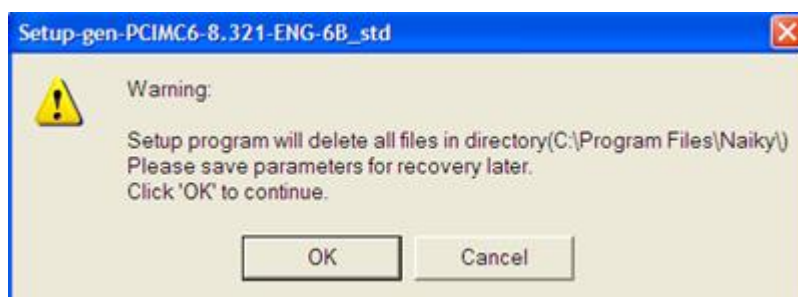

Fig. 2-2 Warning to delete previous files
- 4) Click [Yes] to continue. To avoid interference of old version software to the installation, the system prompts that the setup will delete all files of old version software, see Fig. 2-2.